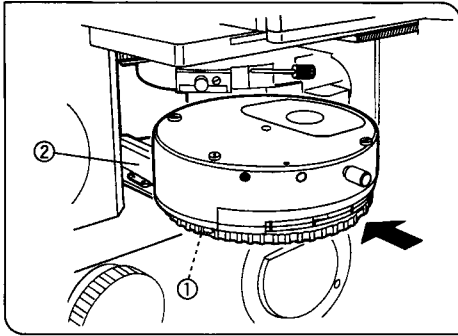

Fig. 4
(Fig. 4)
1. Using the Allen screwdriver, loosen the clamping screw ① of the microscope's mirror cube housing dovetail. Remove the housing dummy.
2. Positioning the mirror cube housing dovetail ② as shown in Fig. 4, insert the mirror cube housing as far as it will go into the microscope's mirror cube housing compartment.
3. Using the Allen screwdriver, firmly tighten the clamping screw ① of the microscope's mirror cube housing dovetail.